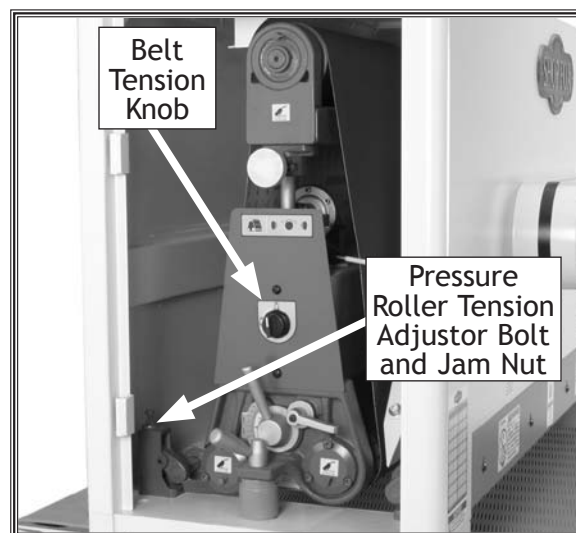

Figure 51. Belt and pressure roller adjustments.
4. Install the sanding belt and turn the belt tensioning knob to the 12:00 position to tension the belt. See **Figure 51**.
6. Loosen the adjustment jam nuts and raise the pressure rollers above the sanding belt roller with the adjustment bolts shown in **Figure 51**.